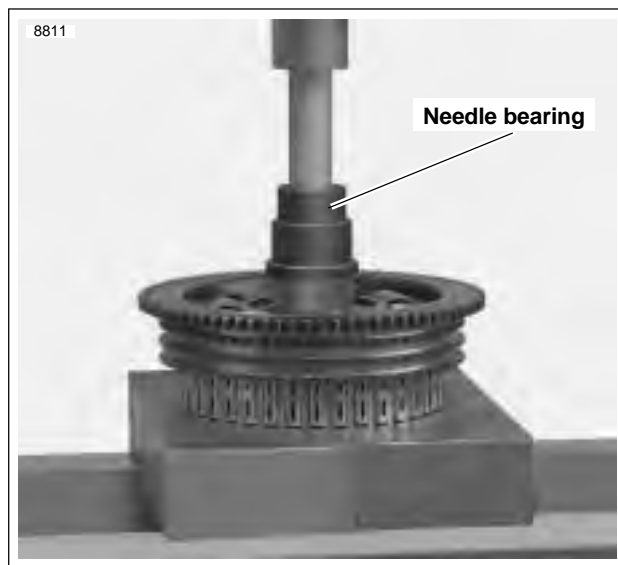

Figure 6-29. Installing Clutch Shell Needle Bearing Clutch Shell Bearing Remover/Installer B-45926
5. See Figure 6-29. Place clutch shell on support blocks with sprocket side facing up.